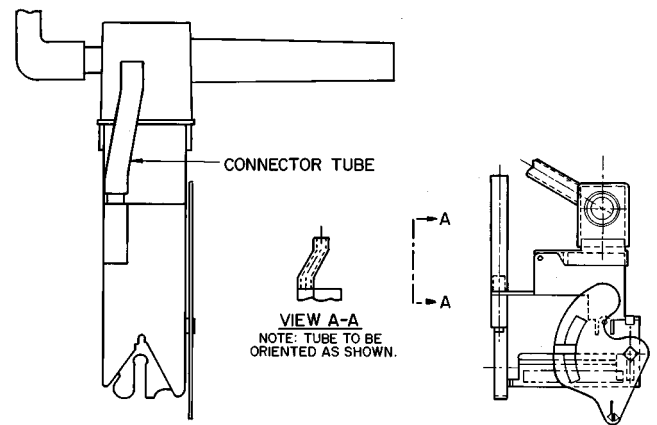
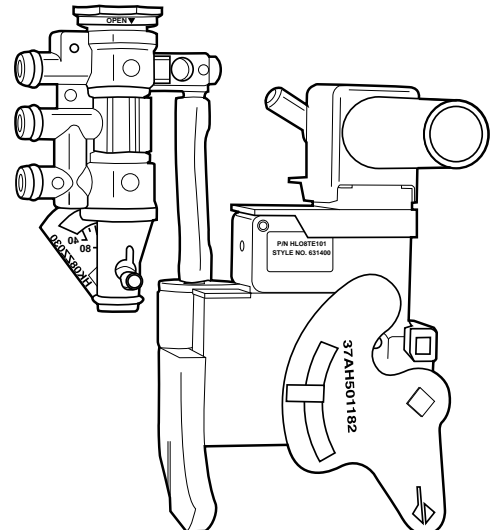

Fig. 27 — Correct Orientation of Connector Tube
Fig. 28 — Assembly of Thermostat and Volume Controller
7. Remove short, preformed rubber tube from thermostat. Replace it with the 2-in. long preformed tube and attach tube to volume controller. Figure 27 shows the correct orientation of the tube on the thermostat and Fig. 28 shows the assembly of the 2 parts.